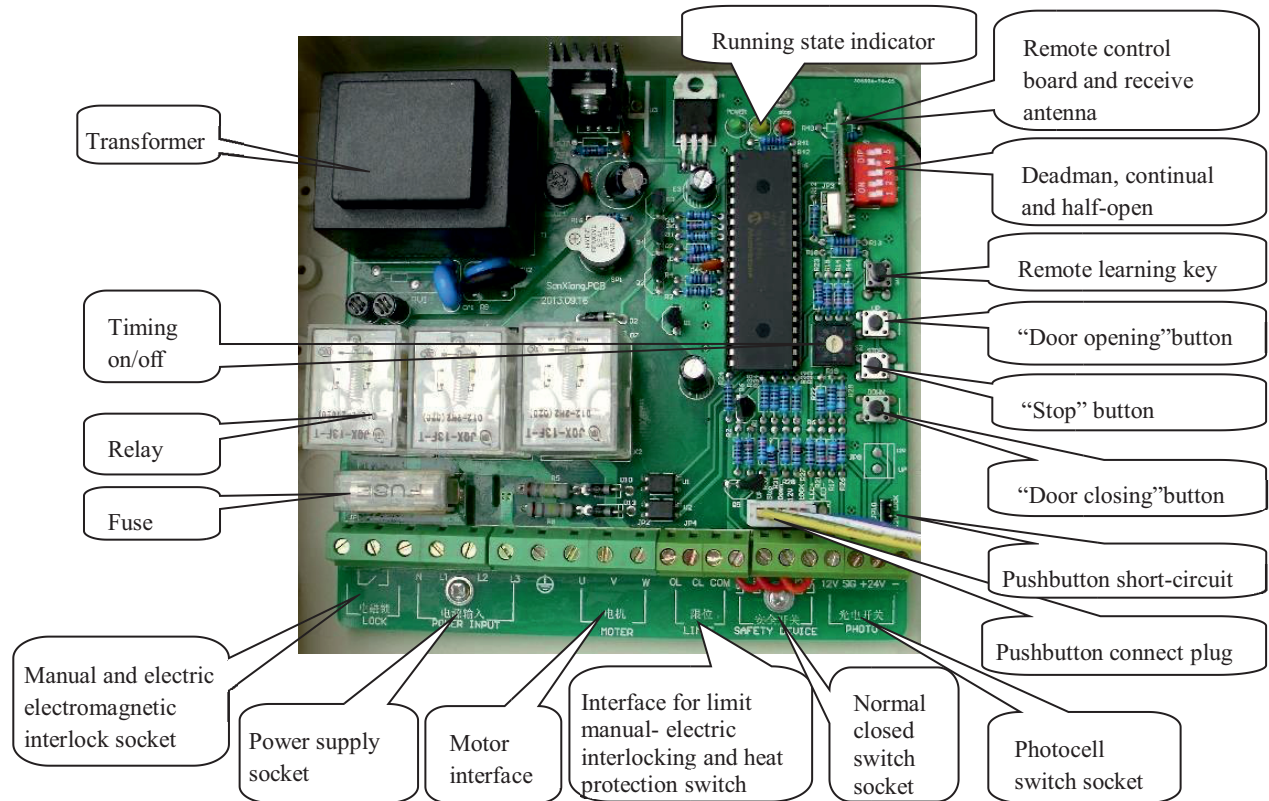
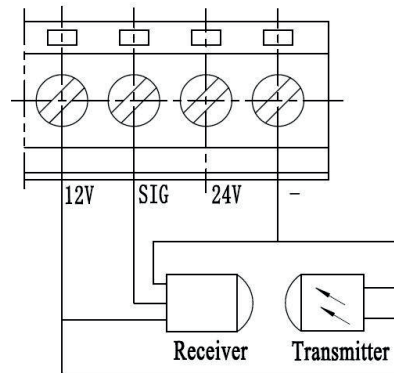
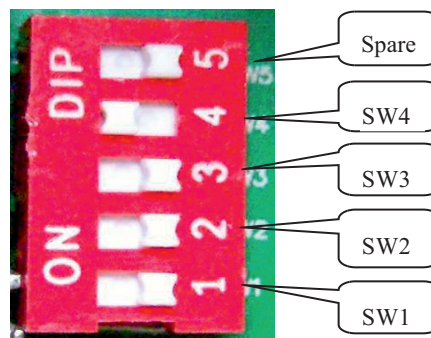
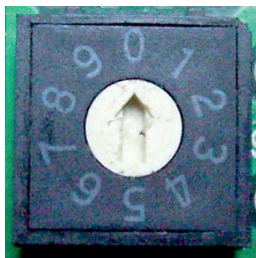

Fig. 7 Map of layout of main function components on DM 300 three-phase electrical controller's circuit board
Fig. 11 Diagram for wiring of photoelectric switch on DM 300 three-phase electrical controller's circuit board
Fig. 12 Diagram of switches for DM 300 three-phase electrical controller circuit board's Deadman, linkage and half-open functions
Fig. 13 Diagram of switch for timing closing function on DM 300 three-phase electrical controller circuit board
3.2.2.2 The "upward", "stop", "downward" and "emergency stop" buttons on control circuit board to control the drive's operation, the "button short-circuit jumper" and control panel's buttons can be switched, for installation and debugging (Fig. 7 and Fig. 9).
3.2.2.3 Control circuit board can define the drive's operation status of "Deadman", "linkage" "half-linkage (between upper and lower limit, the same below)", "full-linkage" at "upward" or "downward" mode (Fig. 7 and Fig. 12).
3.2.2.4 "Delayed automatic closing" function allows 9 grades, respectively 5, 10, 20, 25, 50, 100, 120, 180, 240 sec. Upon the termination of due delay time, the drive will automatically run to lower limit and stop, when "Delayed automatic closing" function is turned off, the "door closing" action will be manually implemented via "downstream" button (Fig. 7 and Fig. 13).
3.2.2.5 When receiving the drive's running limit on/off signals, control the drive and stop the running respectively, in the upper and lower limit switches' action (Fig. 7 and Fig. 8).
3.2.2.6 When receiving the drive's manual and electric interlocking protection on/off signals, manually operating the drive for "upward" and "downward" movement, manual and electric interlocking protection switch in the loop falls into short-circuit, and the drive can not be electrically operated, the circuit can be controlled in no manual operation state, and the drive can be electrically operated (Fig. 7 and Fig. 8).
3.2.2.7 When the drive is electrically controlled, direct-acting tubular electromagnet controlling manual and electric interlocking, shielding manual operation, when electrical operation stops, tubular electromagnet is power off, and the drive can be manually operated (Fig. 7 and Fig. 8).
3.2.2.8 When receiving the motor's thermal protection switch signals, and the thermal protection switch falls into short-circuit, electrical operation stops, when thermal protection is restored, electrical operation can recover by pressing switches (Fig. 7 and Fig. 8).
3.2.2.9 Can connect and respectively receive the external plug-in normally closed type switch(including anti crushing protection, door edge punching bottom protection, door-in-door protection, wire rope breaking protection, torsion spring break protection, etc.)signals, control drive switching circuit state to stop running(Fig.7, Fig.8 and Fig.10).
3.2.2.10 Can connect and respectively receive the external 12VDC or 24VDC normally open type photoelectric sensor (such as infrared) safety protection switch signals, the drive running should be stopped, then immediately ascend to “upper limit” or preset “half-linkage” position and then stop(Fig.7, Fig.18 and Fig.11).
3.2.2.11 Circuit board is provided with remote control function, to receive remote control transmitter signals and accordingly control the drive for "upward", "stop", "downward" status, with necessary principle of panel switch's priority in remote control (Fig. 7 and Fig. 14).
3.2.2.13 Running state indicator lamp is provided (Fig. 7 and 3.2.5). **3.2.3**
②. in parallel The open limit switch (for door opening), and close limit switch (for door closing) was in parallel, they in series with the electric / manual interlock switch and over heat protection switch, which have been wired before the door opener is delivered from the factory, When connect the wire, please plug the 3 outgoing line's termina into the terminal shown in Fig. 7 and Fig. 8.
③. When the door opener delivered out from factory, the motor, ground connection and electric/ manual interlock total 3 group connecting line's main motor terminal has been connected, when the customer installation & wiring in the control box, should separately connecting the motor, ground connection and electric/ manual interlock connection's outgoing line's terminal into the terminal shown in Fig.7 and Fig.8.
⑤. Wiring of photoelectric safety protection switch: circuit board provides two power supply interfaces (DC12V and DC24V) which can be selected by users according to the working voltage of photoelectric switch (such as the wiring at DC12V shown in Fig. 11), the SIG terminal is photoelectric switch's signal entrance, when the door body is falling, if the interface receives DC voltage signal (12V or 24V), the door body immediately stops falling, then immediately lifts upward to the upper limit.
Function selection (Fig. 12):
selection (Fig. 13):
The indicator is installed on the control box's circuit board (as is shown in Fig. 7):